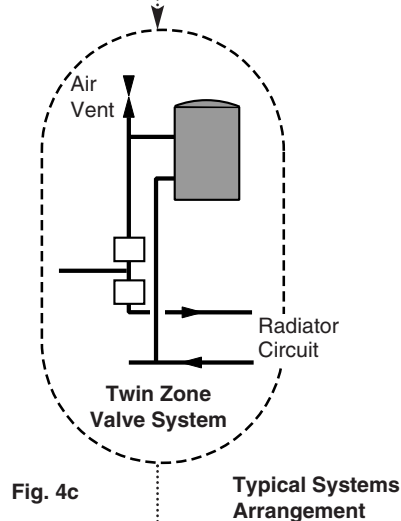

Fig. 4c
- A system using twin zone valves (e.g. Honeywell 'S' Plan) (Fig. 4c).